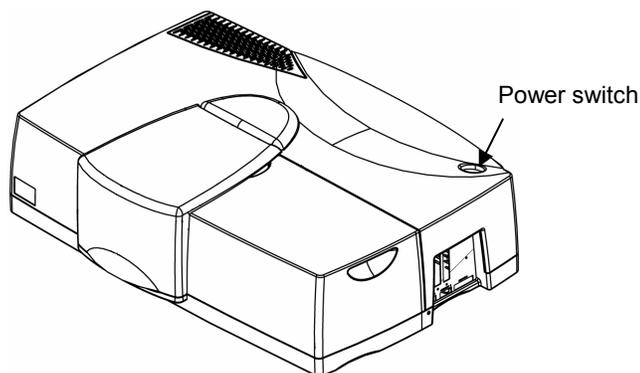

Figure 11 Power Switch
4. Switch on the power switch located at the top right hand corner of the instrument as shown in Figure 11.